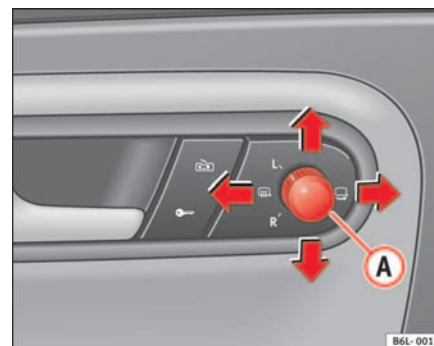

Fig. 67 Exterior mirror control
1. Turn knob ⇒ fig. 67 to position **L (left wing mirror)**.
- Turn the knob to demisting ⇒ fig. 67. ▶
- Turn the control ⇒ page 97, fig. 67 to position  to fold in the exterior mirrors. You should always fold in the exterior mirrors if you are driving through an automatic car wash. This will help prevent damage.